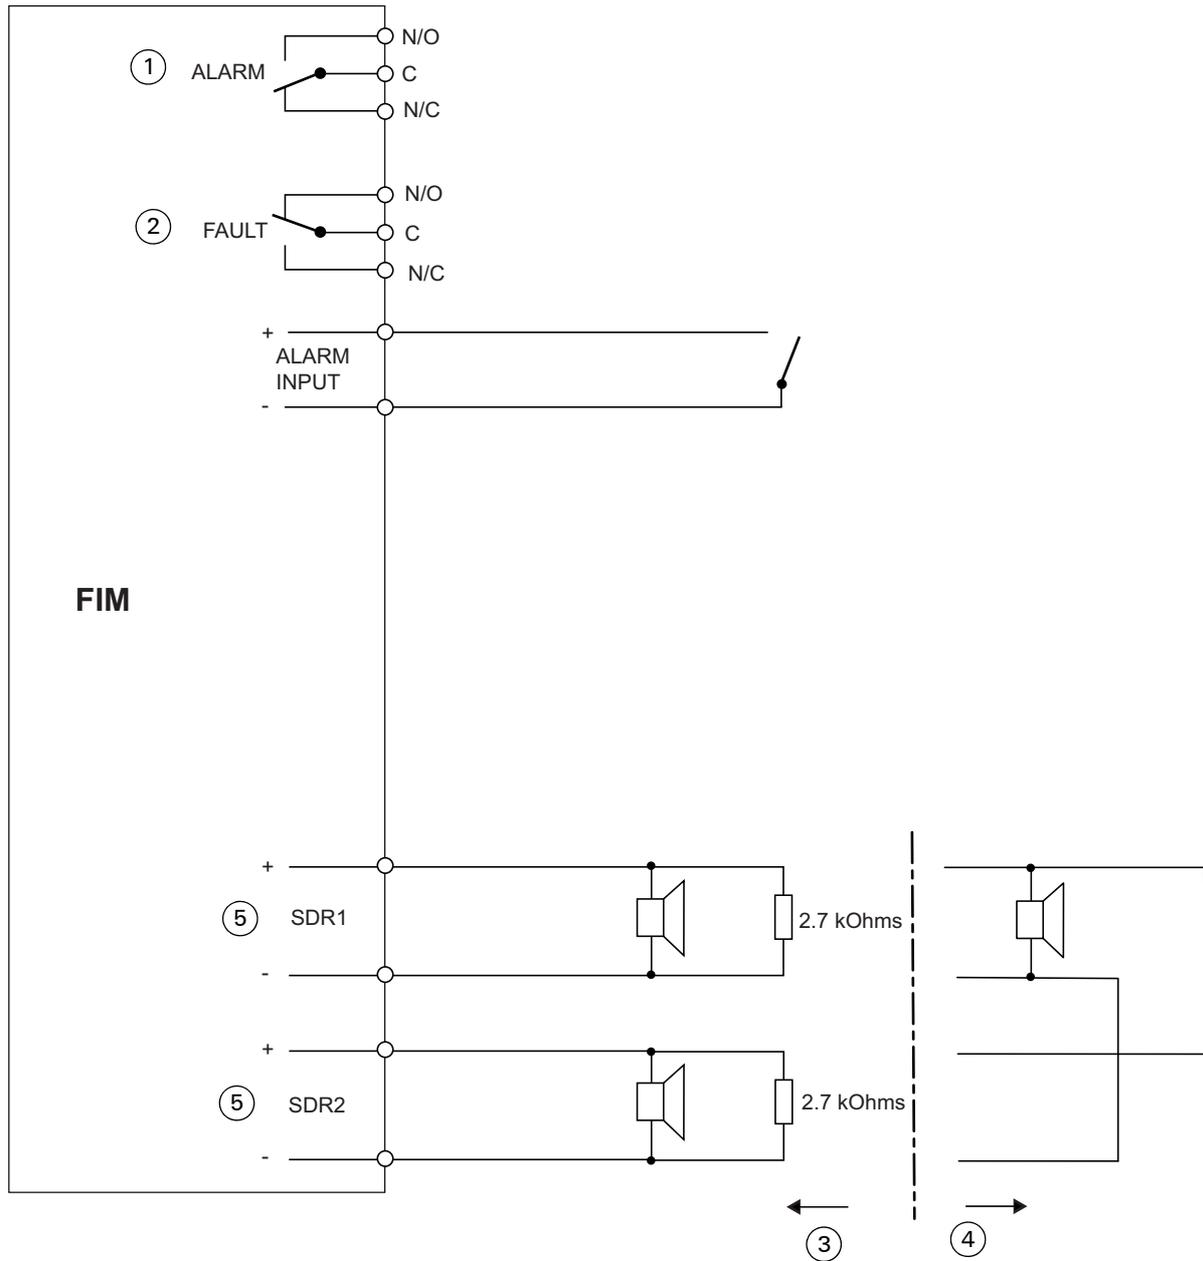

Fig. 16: FIM local input and output (the labels match those on the FIM board)
- 1 Connect the sounders in Loop mode or Spur mode, as shown in Fig. 16.
For a general overview of the possible connections, see Fig. 16 on page 27.